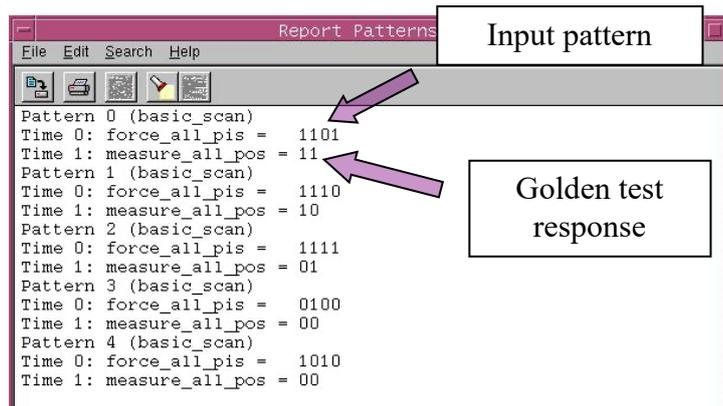

Figure 5: Report pattern window
- Pattern sequence: In the **Patterns** menu, choose **Report Patterns** to view the list of test vectors (see Figure 5). Verify that you get the same results as the test tool.